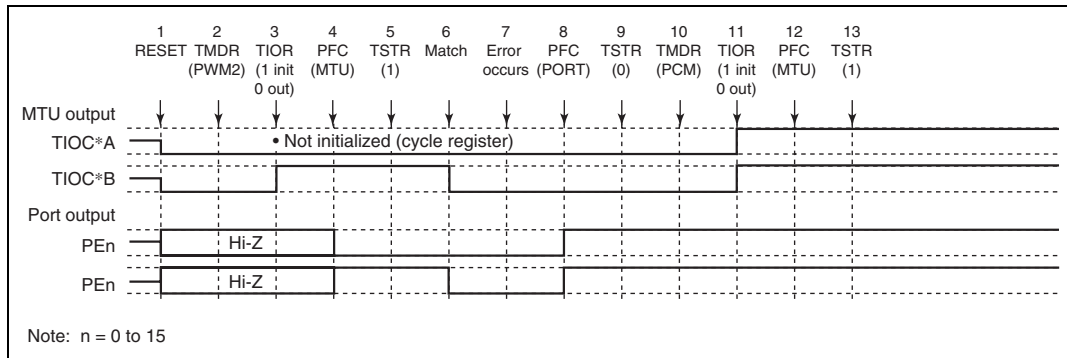

Figure 10.71 Error Occurrence in PWM Mode 2, Recovery in Phase Counting Mode
(12) Operation when Error Occurs during PWM Mode 2 Operation, and Operation is Restarted in Phase Counting Mode: Figure 10.71 shows an explanatory diagram of the case where an error occurs in PWM mode 2 and operation is restarted in phase counting mode after re-setting.